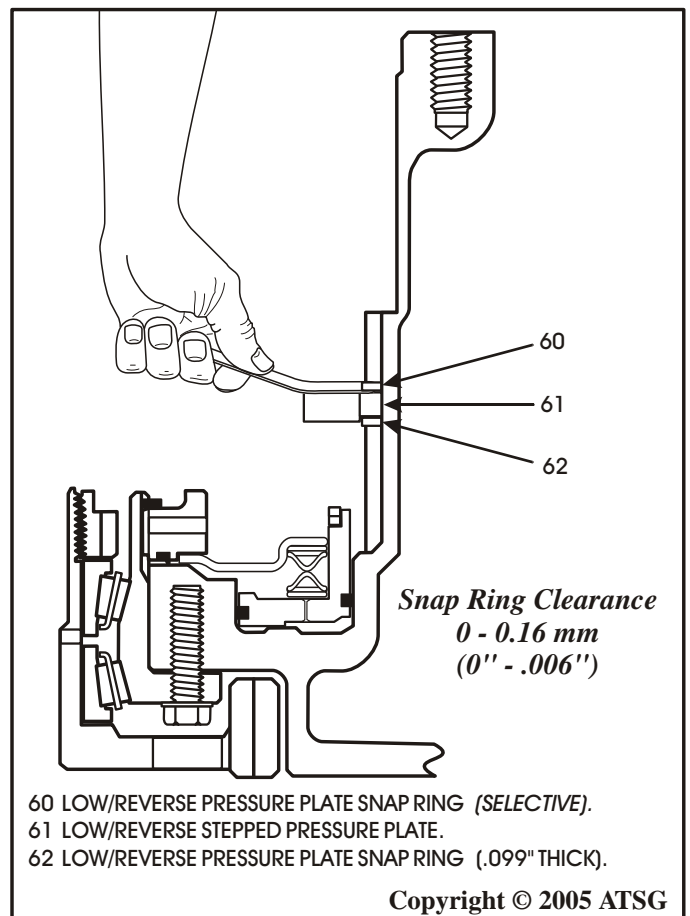

Figure 172
38. Measure with a feeler gage between pressure plate and the selective snap ring, as shown in Figure 172.